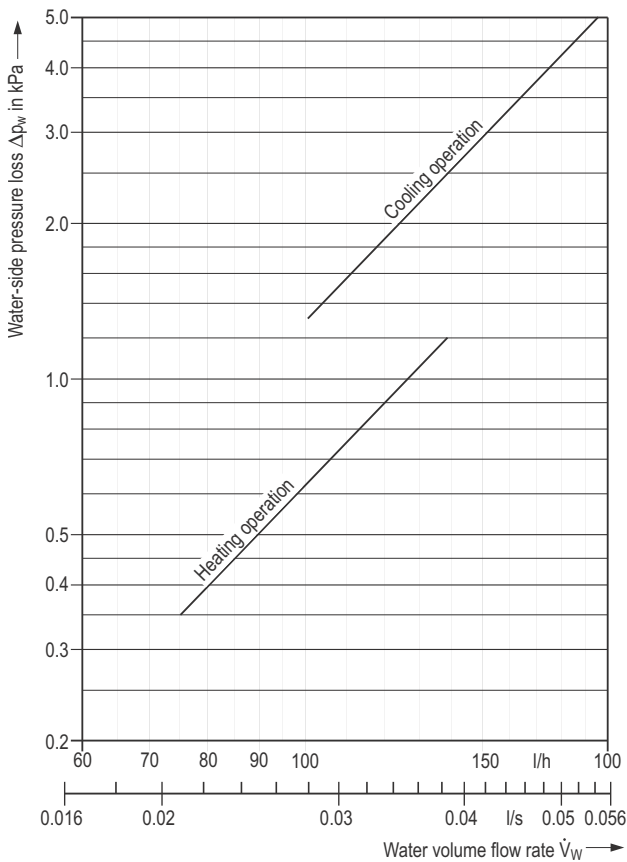

Figure 13: Water-side pressure loss of heat exchanger
Water-side pressure loss of the heat exchanger can be read off **Figure 13** and amounts for example in cooling operation at 120 l/h to 1.9 kPa, at 180 l/h to 4.2 kPa.
4) Figure 13